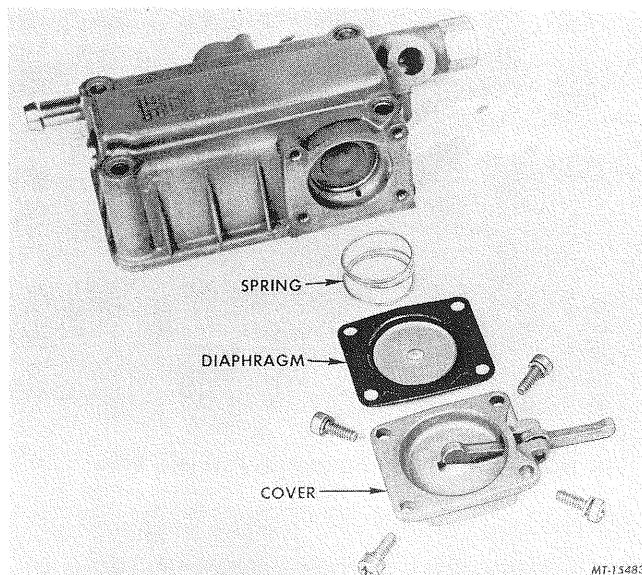

FIG. 30 Accelerator Pump, Disassembled Plastic Pump Inlet Valve
9. Remove screws attaching accelerator pump cover to fuel bowl. Remove cover and carefully remove pump diaphragm and spring (Figure 30 and 31).